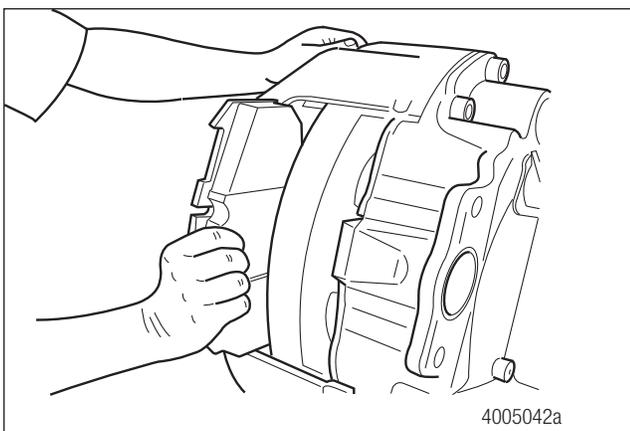

Fig. 6.9 Remove the outboard brake pad.
STEP 5 - Remove the outboard brake pad from the caliper assembly and mark the brake pad "outboard". Figure 6.9.